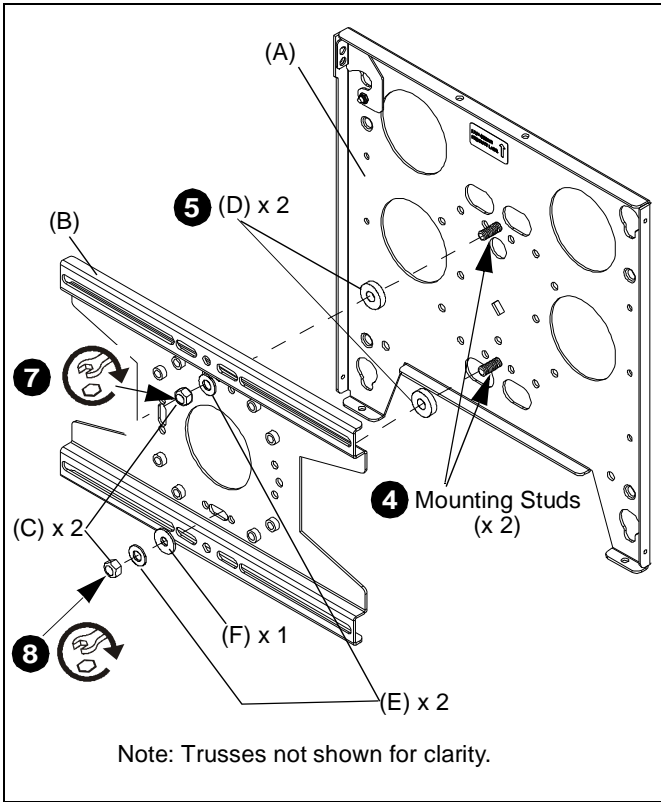

Figure 5
4. Align mounting studs on faceplate (A) with center upper mounting hole and lower center slot in truss plate (B).
5. Install two 1.055" x .406" x .250" Nylon spacers (D) onto mounting studs on TPS faceplate (A). (See Figure 5)
6. Place the two mounting studs on faceplate through center upper mounting hole and lower center slot in truss plate (B).
7. Secure top of TPS faceplate (A) to truss plate (B) using one 3/8" flat washer (E), and one 3/8" Stover lock nut (C). (See Figure 5)
8. Secure bottom of TPS faceplate (A) to truss plate (B) using one .094" washer (F), one 3/8" flat washer (E), and one 3/8" Stover lock nut (C). (See Figure 5)